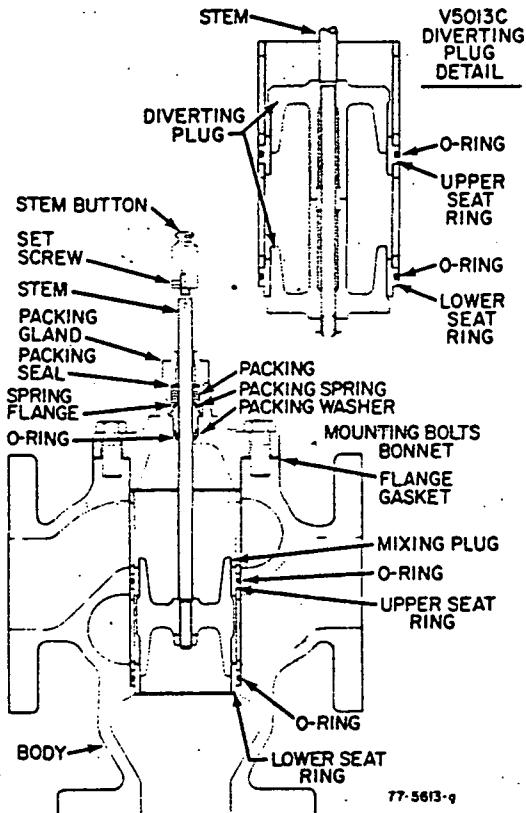

Fig. 7—Cutaway of Typical V5013B Flanged Type Body and V5013C Diverting Plug.
f. Flanged 3-Way Valves (V5013B-E) — The bonnet may be detached by removing mounting screws. The upper seat ring can then be unscrewed so the stem and plug assembly can be lifted out. The lower seat ring can then also be removed through the bonnet opening (Fig. 7).